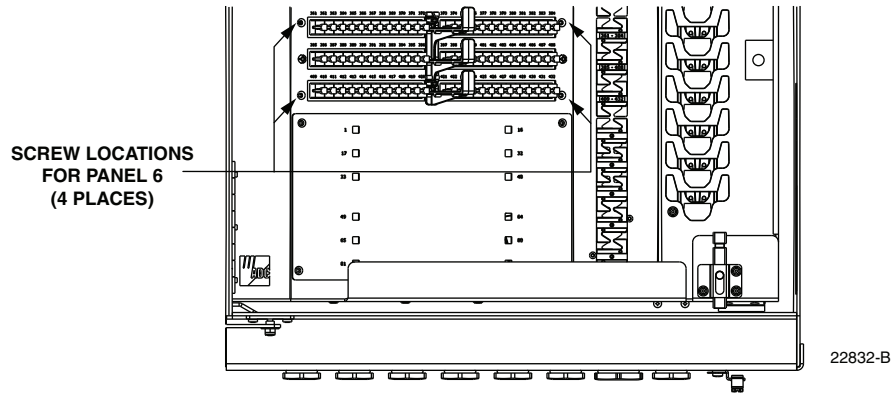

Figure 66. Securing Distribution Panel to Swing Frame
5. Working from the front, use the four screws provided with the panel to secure the front of the distribution panel to the swing frame as shown in Figure 66.